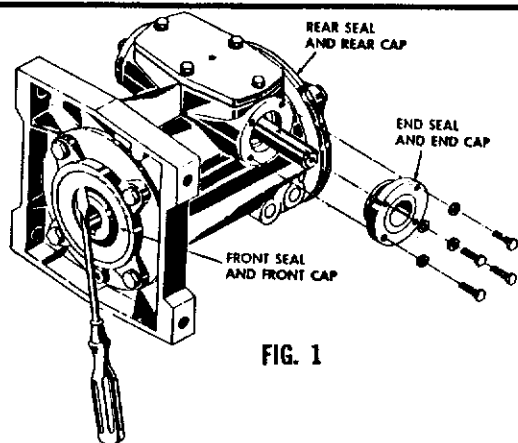

FIG. 1
TO REMOVE EXISTING FRONT AND REAR SEALS from front and rear caps on Gear Reducer (Fig. 1):
TO REMOVE EXISTING END SEAL and END CAP from Gear Reducer (Fig. 1):
1. Loosen bolts numbers one (1) thru five (5).
2. Place pin "A" in position shown in Fig. 1 & 2.
3. Check pins "B" at position shown in Fig. 1 & 2 for equal clearance.